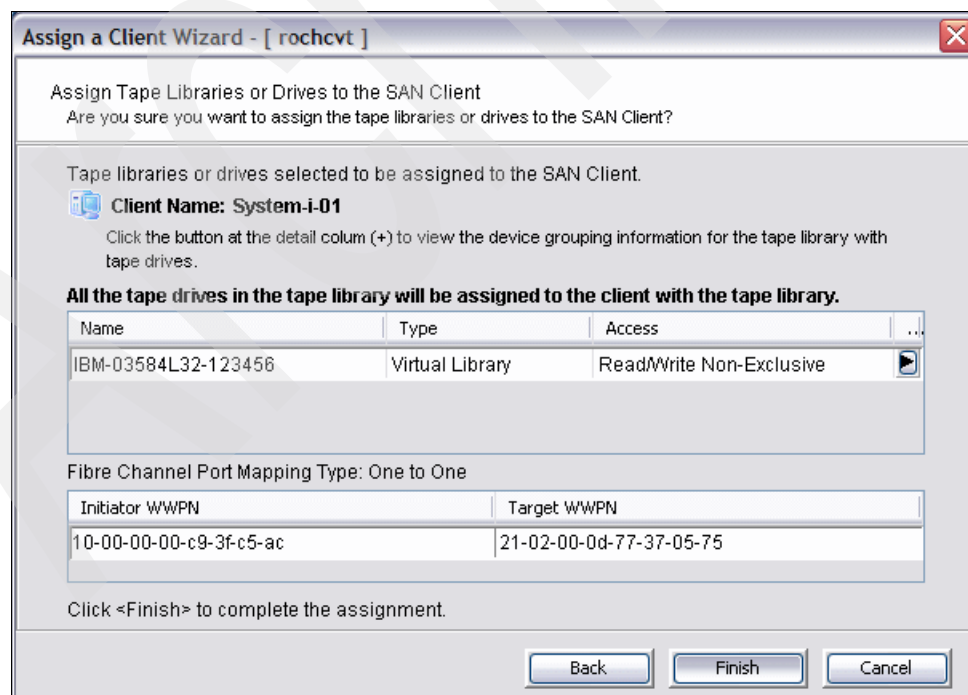

Figure 5-52 Summary of the client assignment
4. In the Assign Tape Libraries or Drives to the SAN Client panel (Figure 5-52), verify your selection before you make this assignment. If everything appears to be correct, click **Finish**. To make changes, click the **Back** button.